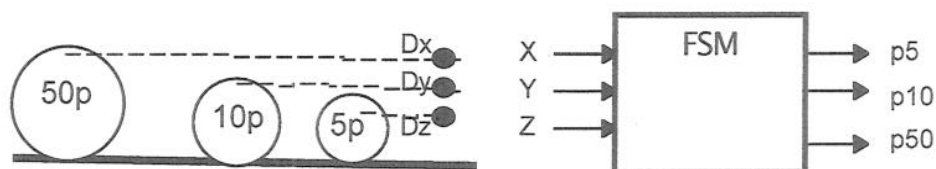
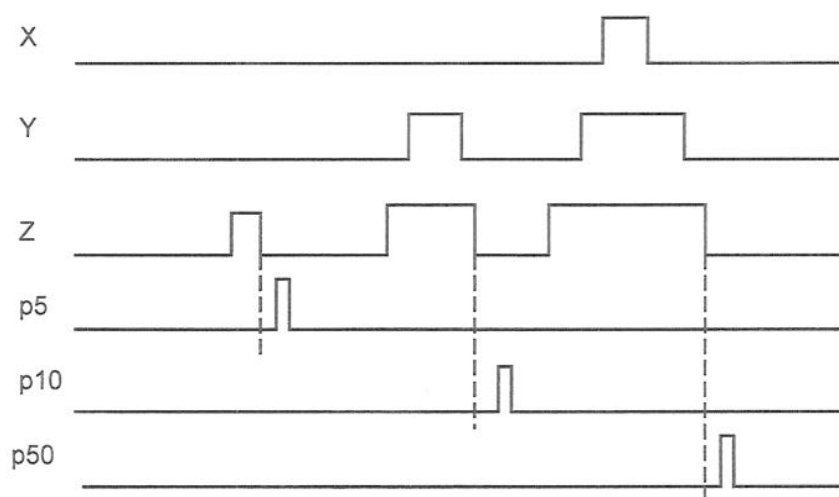

Figure 1.1
Figure 1.2
1. Figure 1.1 shows a channel in a vending machine through which coins are rolled down and detected by three light sensitive detectors. The timing diagram for the signals X, Y, Z from the three detectors Dx, Dy and Dz when 5p, 10p and 50p coins are respectively fed into the machine in that order are given in Figure 1.2. The detectors are so positioned that only waveforms X, Y, Z as shown are possible. A synchronous finite state machine (FSM) is used to generate the three output signals p5, p10 and p50 as shown in Figure 1.2 to indicate the type of coin being detected.